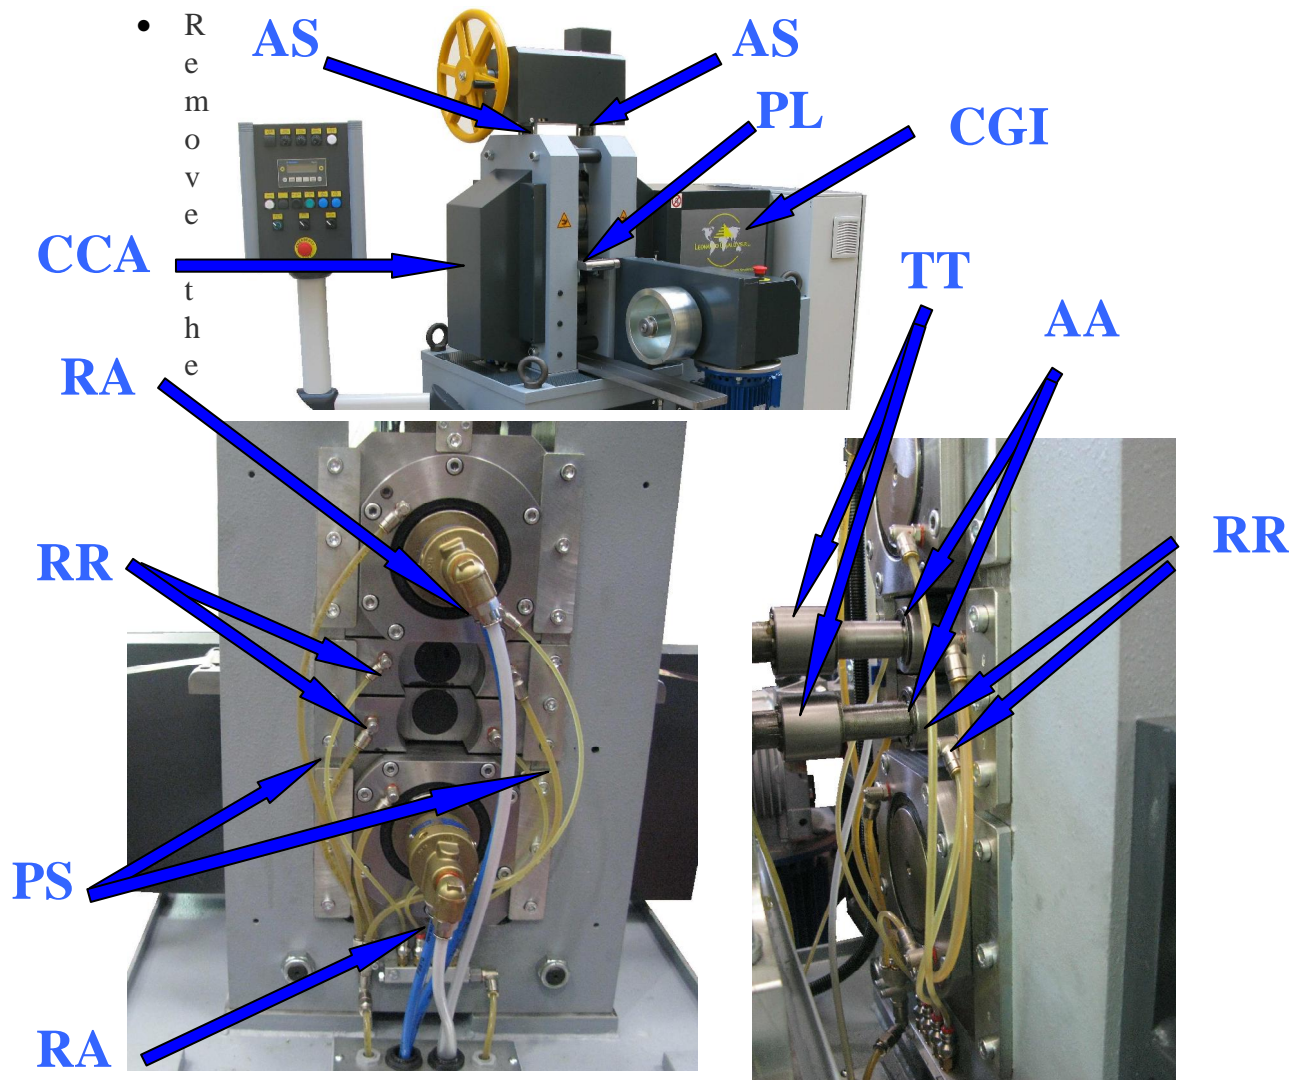

Fig. 11 – Changing working cylinders
- Remove the other four plates shoulder (PS) remained blocking the upper cylinder and the lower cylinder
- Insert, under each of the two supports of the upper cylinder, a spacer or any means to prevent the cylinder from falling when it is released from the rods (AS) (see Fig.11).
- Act loosening, the four rods (AS) and, alternatively, on the steering wheel until the media will be released from the rods themselves, at which point the upper cylinder full media can be removed from the cage.
- Remove the main casing (CGI) (Fig.11)
- Loosen the filler cap (TC)
- Place under the drain plug (TS) a container of minimum capacity of 2.5 liters; loosen the drain plug completely and collect all the oil content
- Screw the plug (TS)
- Introduce from the opening load (TC) oil type ROTO EP 320 (approx 1.7liters) until you reach the level on the indicator side (L). For oil equivalent to that indicated see table in paragraph 3.7